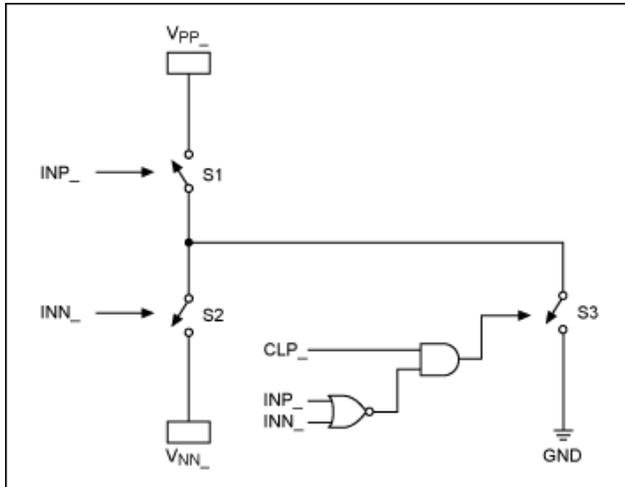

Figure 1. The MAX4940 functional diagram (1 of 4 channels).
**Figure 1** shows the essential functional diagram of the MAX4940, a device that features 4 channels for high-voltage (HV) digital pulsing. (Only 1 out of the 4 channels is displayed in the diagram.)